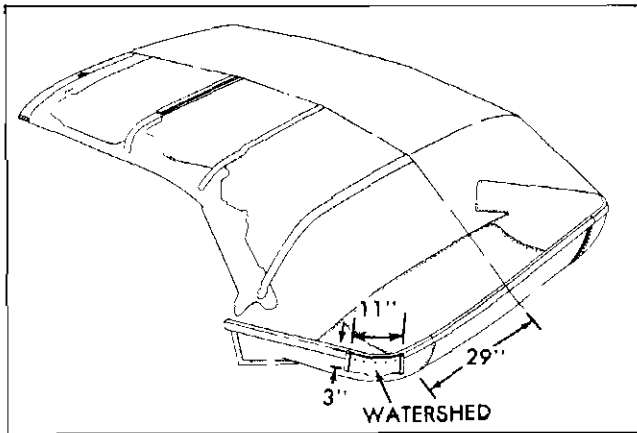

Fig. 7-33 Back Curtain Stay Pad Watershed
9. Check back curtain stay pad watershed for proper installation to rear trim stick (Fig. 7-33). A new watershed may be made from a vinyl coated material as shown in Fig. 7-33. Place vinyl coated side of material against trim stick; then tack material in position. Bottom portion of watershed is wrapped upward and around lower edge of stay pad inner flap. The stay pad outer layer (coated fabric) is then tacked over watershed. The watershed is designed to protect lower edge of stay pad from wicking water.